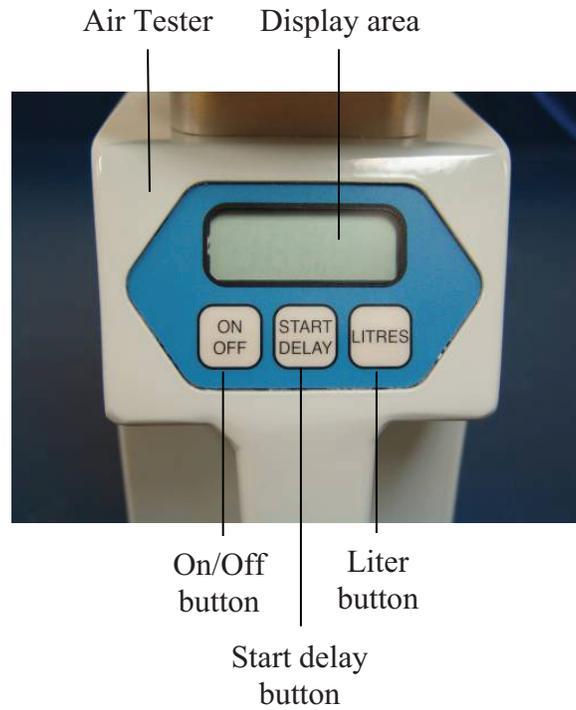

Figure 2: Diagram of the M Air T Millipore Air Tester With Display Buttons
9.2. Figure 2: Diagram of the M Air T Millipore Air Tester With Display Buttons